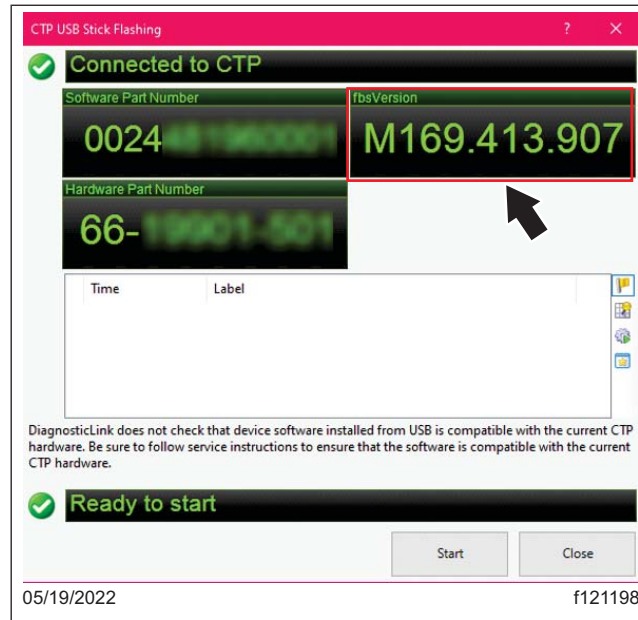

Fig. 14, Verifying fbsVersion
17. Once the CTP01T connection turns green in the 'Connections' window, go to 'Actions,' 'Telematics', then select 'CTP USB Stick Flashing.' Verify the 'fbsVersion' is '169.413.907.' See Fig. 14. If the 'fbsVersion' does not match the above version, disconnect the CTP01T and connect again. Then verify the version again.